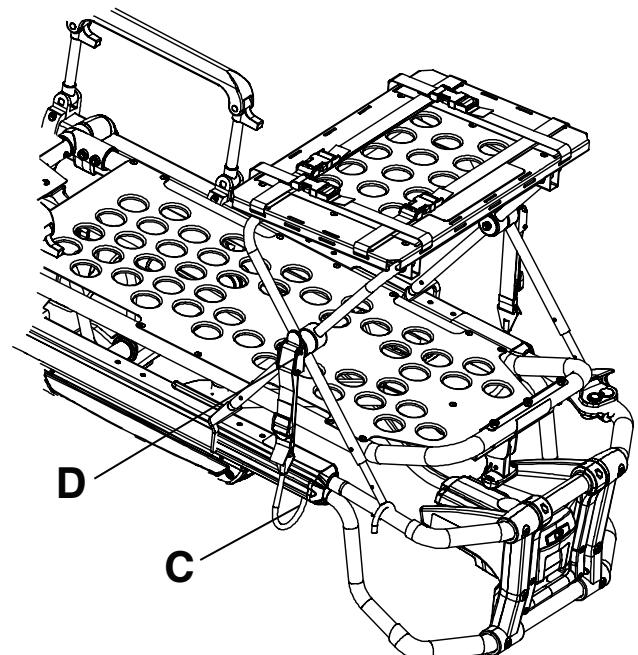

Figure 29 – Latch hook placement (Model 6506 shown)
6. Place the latch hook (C) under the litter frame or foot end fastener and push the tab (D) up until it locks into place on one side with an audible click (Figure 29). Repeat on the other side. For **Power-LOAD** compatible cots, if equipped, you must lengthen and attach the straps to the foot end fastener (Figure 30).